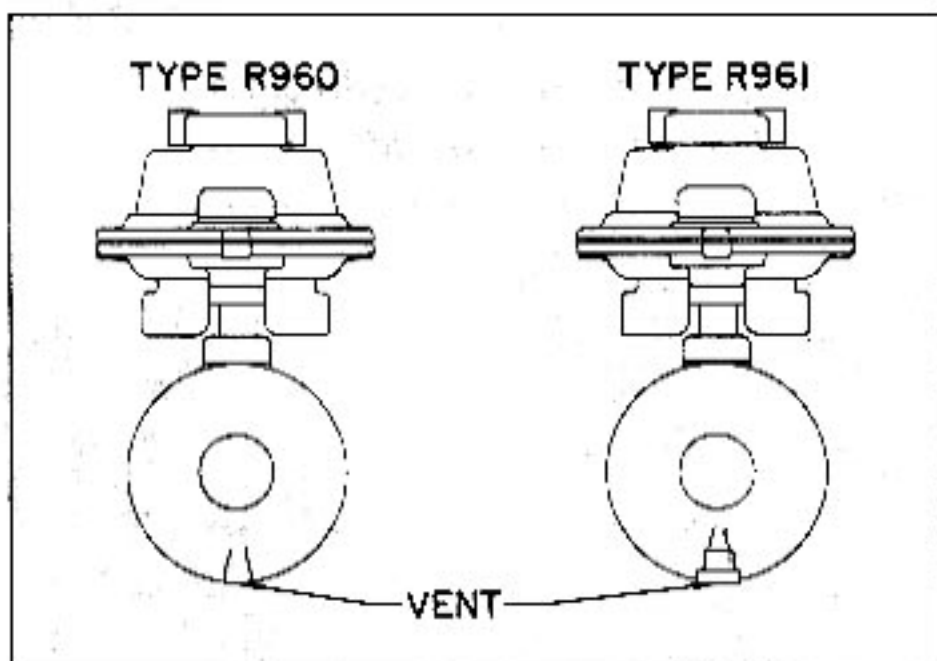

Figure 3—Regulator vents
1. Make sure the regulator assembly is always installed with the vent opening, see Figure 3, pointed vertically down.
The outlets of the cylinder valves should be cleaned thoroughly to remove dirt or water. One method of doing this is by cracking the cylinder valve open for a short time to blow out the dirt. Install the regulator in an upright position as shown in Figure 3 with the vent opening pointing down. The regulator should be installed so as the regulator vent opening shall not be affected by the elements, such as sleet, snow, freezing rain, ice, mud, insects, or road splatter. A suitable hood or enclosure for the regulator is recommended.